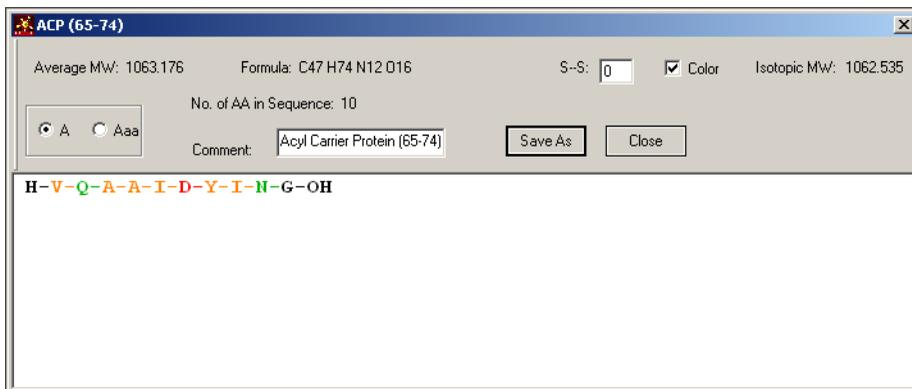

Figure 5-3 One-Letter Sequence Format
- Select **A** to display the sequence using the one-letter format (Figure 5-3).